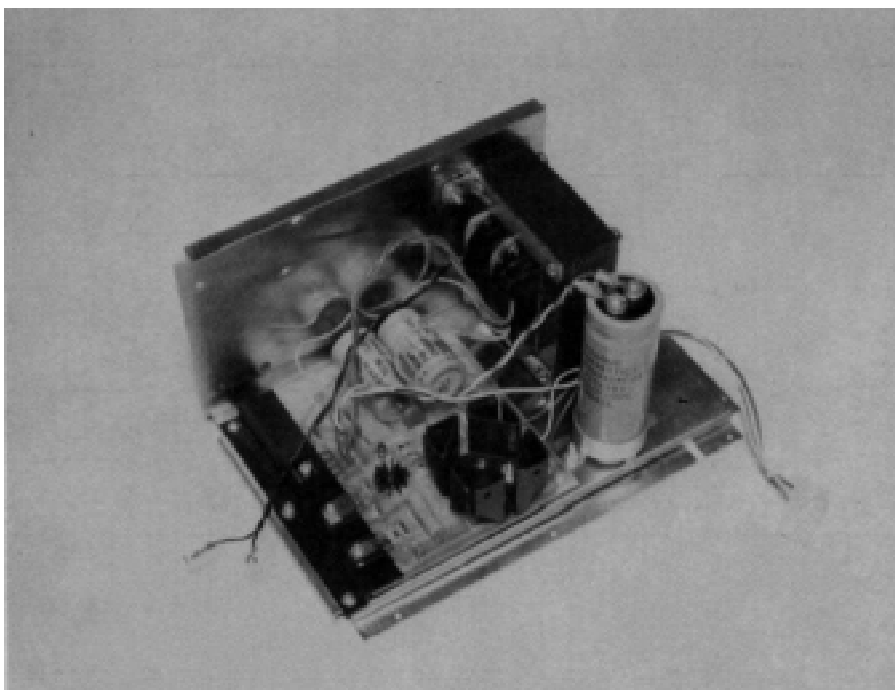

Figure 2-4. Sol-10 power supply subchassis assembly.
- () Step 32. Attach heat sink on Sol-REG to power supply subchassis as shown in drawing on Page X-2. At this point use only the two side screws which you used in Step 29 to pre-thread the holes. (The middle screw will be installed later.) Place a #6 lockwasher on each screw before driving it through the sink into the subchassis. Figure 2-4 shows an assembled Sol-10 power supply subchassis.
Position ring over the two mounting holes located between FWB3 and the Sol-REG so that the clamping screw is positioned between the transformer and FWB3. Insert two 6-32 x 1/2 binder or pan head screws from bottom side of chassis through the mounting holes. Place #6 lockwasher on each screw and secure with 6-32 hex nut. (Refer to Figure 2-4.)
- () Step 37. Route Sol-PC power cable between C8 mounting ring and the transformer, mount C8 in its mounting ring, and tighten clamping-screw. (See Figure 2-4.)
- () Step 44. Route black transformer leads along side wall of power supply subchassis out toward the Sol-REG heat sink. (See Figure 2-4.) Attach one lead to pin 2 of the commoning block (mounted on fan closure plate) nearest the fan. Attach other lead to pin 3 of the other commoning block.